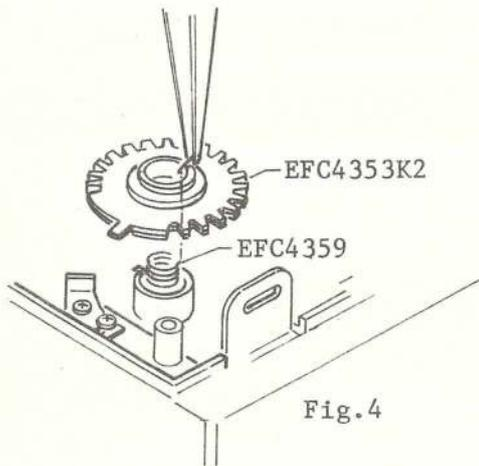

Fig.4
- Put EFC 4353K2 on it and hook the Spring to it. Fig. 4.